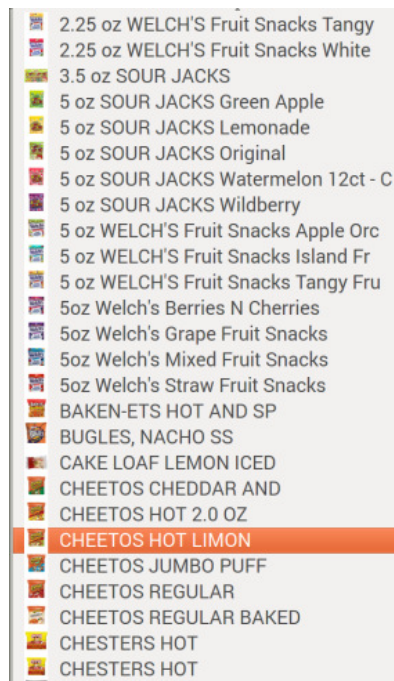

Figure 65
- Once selected, select the new product drop down and scroll through the list of available products to find the product you would like to change the selection(s) to (See Figure 65).